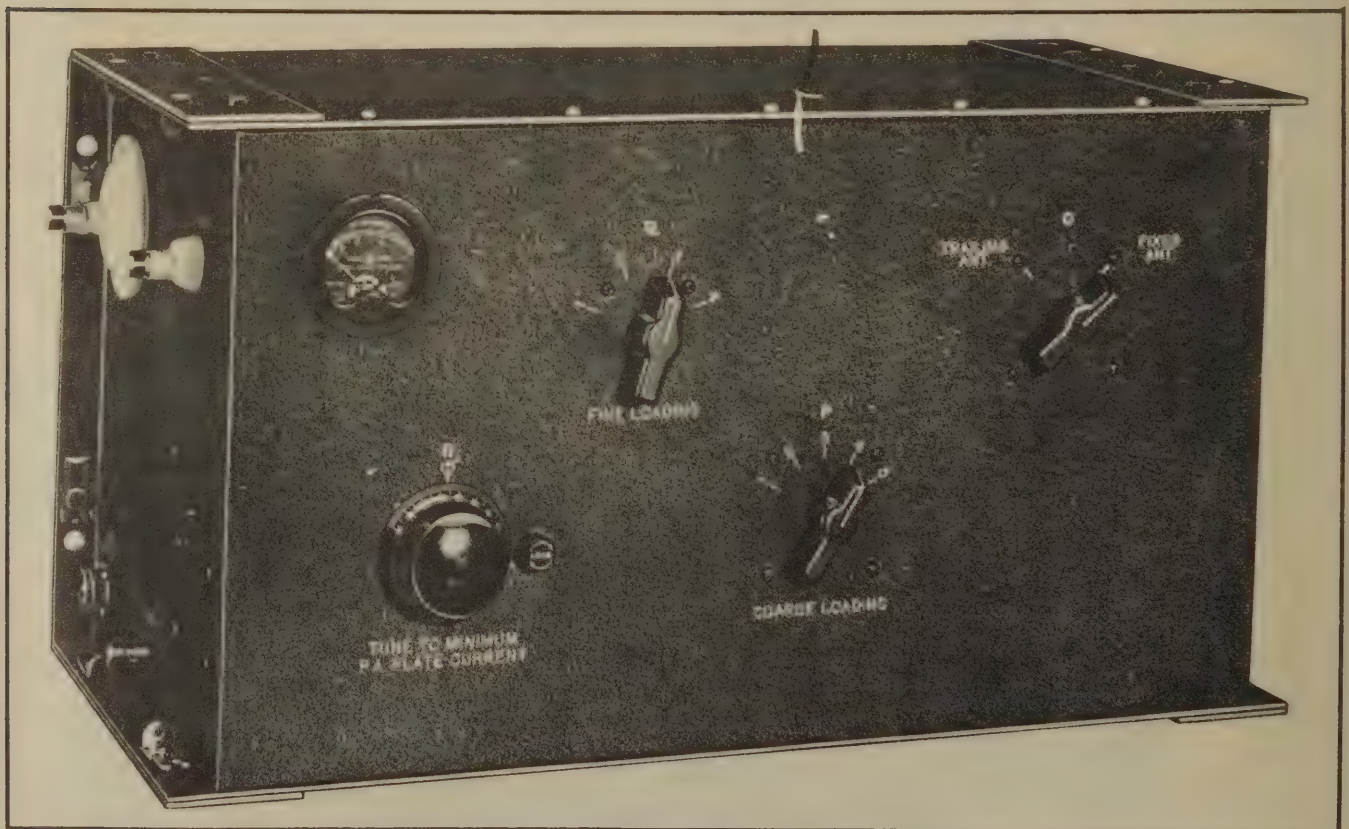

Figure 1-9—Antenna Loading Unit CU-32/ART-13A
(2) ANTENNA LOADING UNIT CU-32/ART-13-A. (See Fig. 1-9).—The antenna tuning network, low frequency relay, and antenna selector switch are all incorporated in this unit. The network is capable of tuning any antenna (fixed or trailing) 30 to 200 feet in length throughout the range 200 to 600 kilocycles.